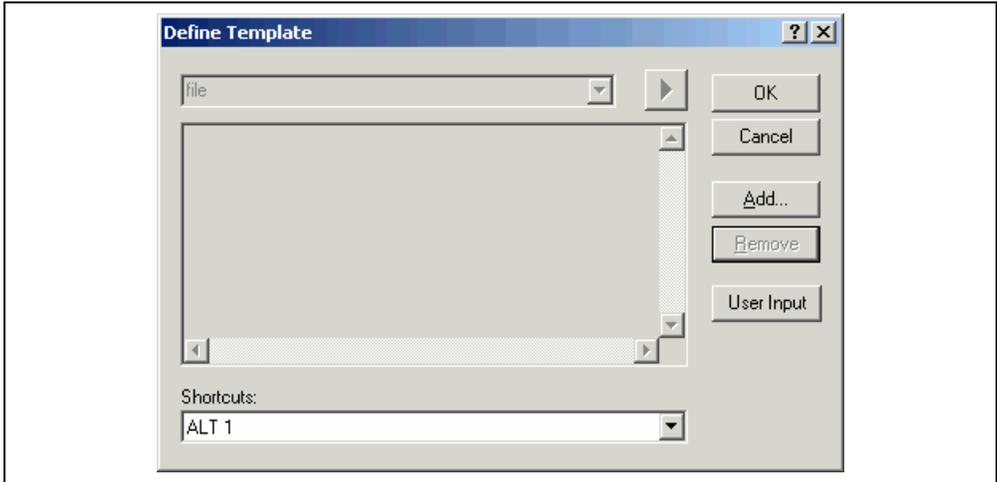

Figure 4.14: Define Template Dialog
1. Select [**Edit->Templates->Define Templates...**], select [**Templates->Define Templates...**] from the local menu, press **CTRL+T** or click on the define template toolbar button . The dialog shown in figure 4.14 will be displayed.
1. Select [**Edit->Templates->Define Templates...**], select [**Templates->Define Templates...**] from the local menu, press **CTRL+T** or click on the define template bookmark toolbar button (). The dialog shown in figure 4.14 will be displayed.